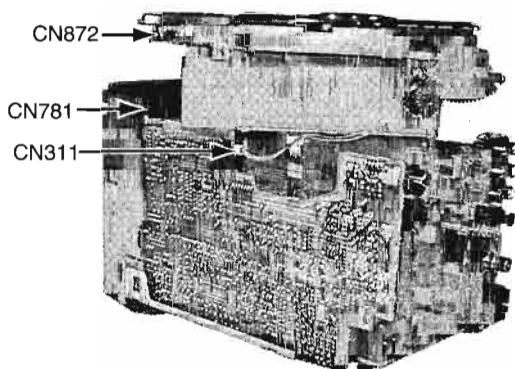

Fig. 6-1
8. Disconnect the connector from CN311 on the main board (See Fig 6-1).
Then the connector CN872 connected to the connector CN781 on the FL display microcomputer P.C.Board of the front assembly will be disconnected at the same time. (See Fig 6-1)